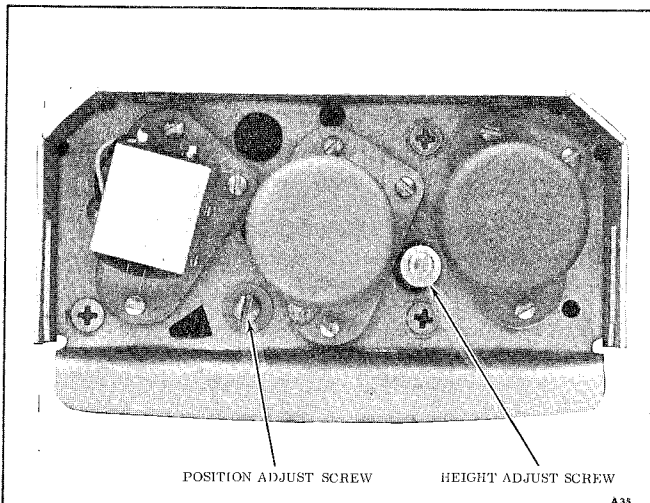

Figure 5-6. Tape Guide Adjustments
5.25 TAPE GUIDE (See Figure 5-6)